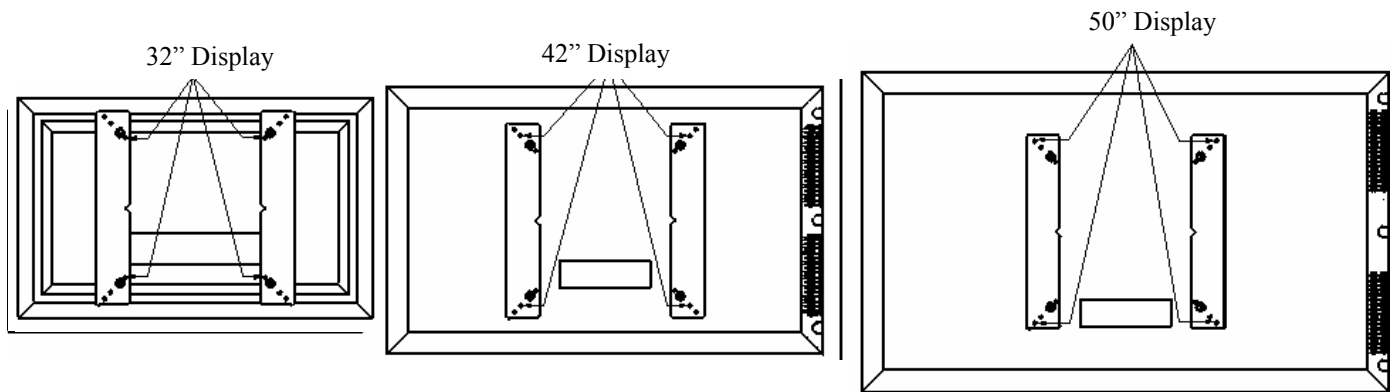

Figure 7. Bracket Attachment Location
4. Attach mounting bracket to the display (see Figure 7), as follows: